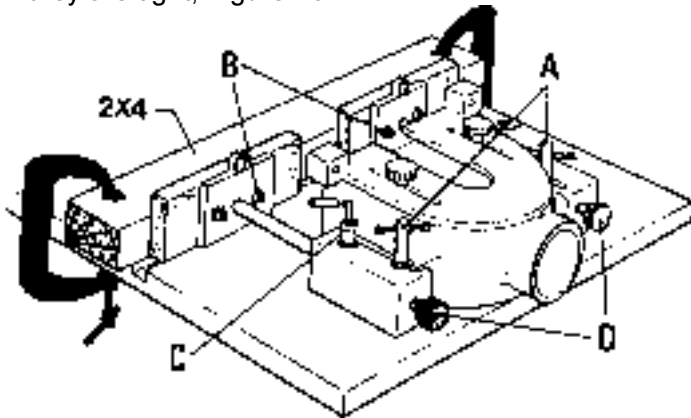

FIGURE 10
1. Check the two mounting screws (A) holding the fence assembly to the table and make sure they are tight, Figure 10.
2. Check the four countersink flat head bolts (B) that secure the wooden fences and make sure they are tight.
3. Take a 2 x 4 with a jointed edge and clamp it to the shaper table making sure the jointed edge is absolutely on line with the miter groove and close to the fence as shown in Figure 10.
4. Loosen the two lock handles (C) and turn the fence adjustment knobs (D) to move both fences against the jointed edge of the 2 x 4. After this adjustment the fences should make flush contact with the jointed edge and square with the table.